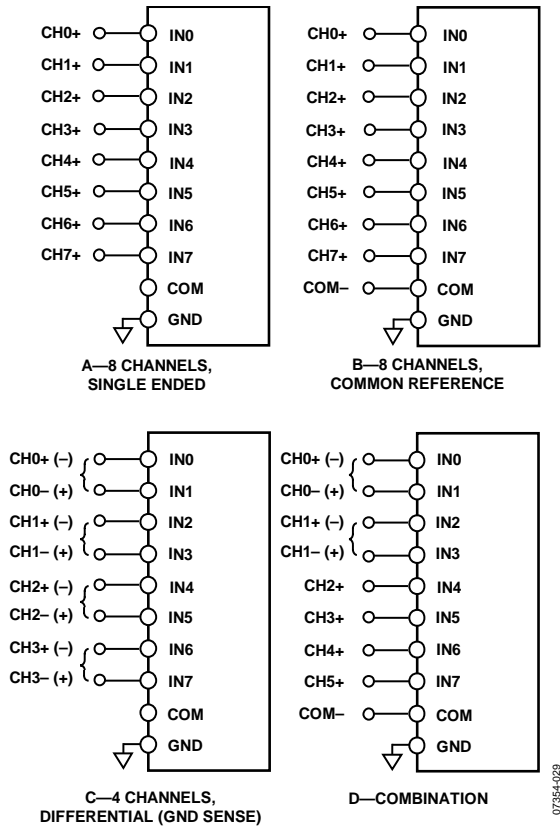

Figure 33. Multiplexed Analog Input Configurations
Figure 33 shows the different methods for configuring the analog inputs with the configuration register (CFG[12:10]). Refer to the Configuration Register, CFG section for more details.
- Configuration A in Figure 33: single-ended referenced to system ground; $CFG[12:10] = 111_2$.
- Configuration B in Figure 33: bipolar differential with a common reference point; $COM = V_{REF}/2$; $CFG[12:10] = 010_2$. Unipolar differential with COM connected to a ground sense; $CFG[12:10] = 110_2$.
- Configuration C in Figure 33: bipolar differential pairs with IN_{x-} referenced to $V_{REF}/2$; $CFG[12:10] = 00X_2$. Unipolar differential pairs with IN_{x-} referenced to a ground sense; $CFG[12:10] = 10X_2$. In this configuration, the IN_{x+} is identified by the channel in $CFG[9:7]$. For example, for $IN_0 = IN_{1+}$ and $IN_1 = IN_{1-}$, $CFG[9:7] = 000_2$; for $IN_1 = IN_{1+}$ and $IN_0 = IN_{1-}$, $CFG[9:7] = 001_2$.
- Configuration D in Figure 33: inputs configured in any of the above combinations (showing that the AD7699 can be configured dynamically).